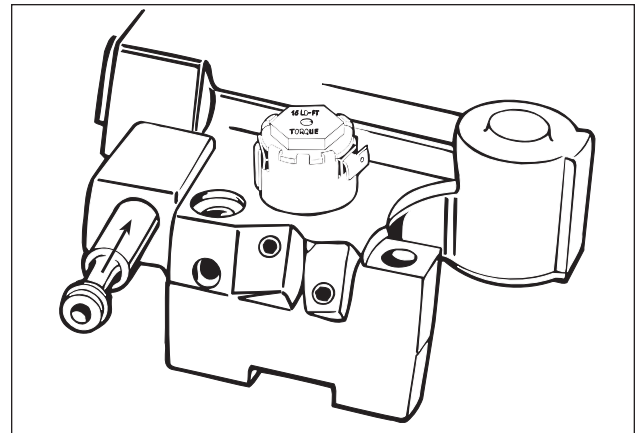

FIG. 11
1. Lubricate O-rings on oil supply tube and install into oil supply hole in rear housing. Push tube in all the way (see Fig. 11).